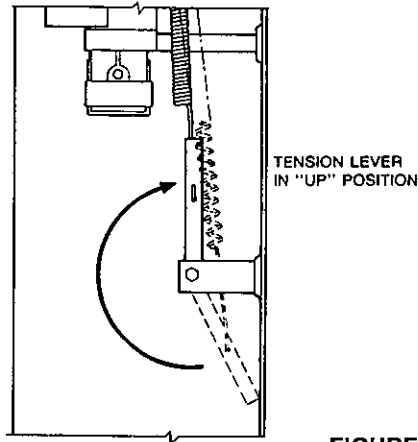

FIGURE 17
19. Raise the tension lever to "UP" position. See Figure 17.